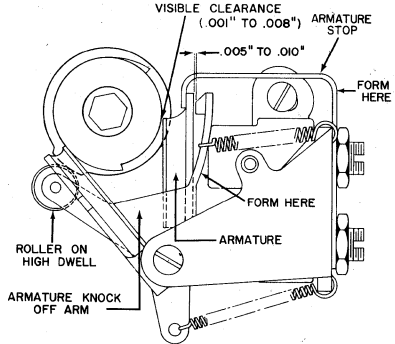

Figure 9
7. Cycle the drive shaft until the armature knock off roller is on the high dwell of the knock off & overtravel cam (Figure 9). Form the armature knock off arm so there is $.005''$ to $.010''$ clearance between the armature knock off arm and the clutch armature.